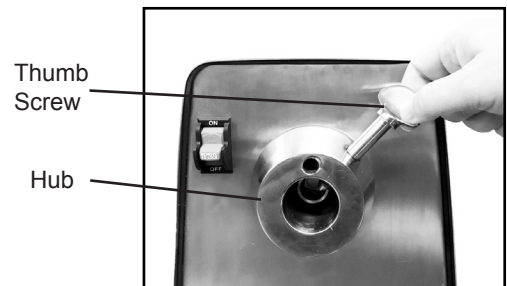

Figure 8-2
3. Insert thumb screw. Tighten thumb screw clockwise until it is secure. Do not use a tool or over tighten (Figure 8-2).